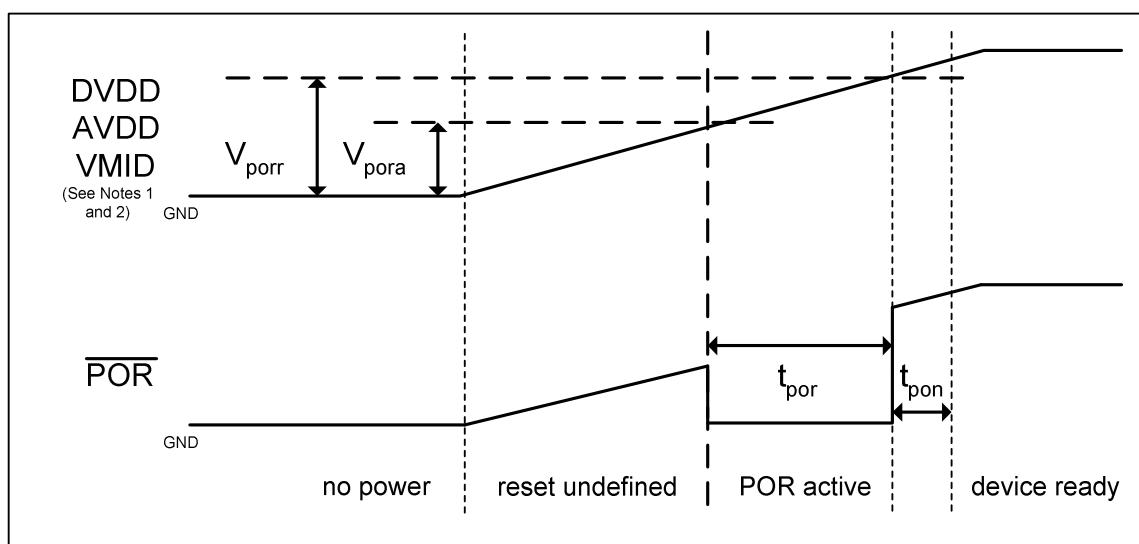

Figure 10 Power Supply Timing Requirements – Power-on
1. POR is activated when DVDD or AVDD or VMID reach their stated Vpora level (Figure 10)
2. POR is only released when DVDD and AVDD and VMID have all reached their stated Vporr levels (Figure 10).